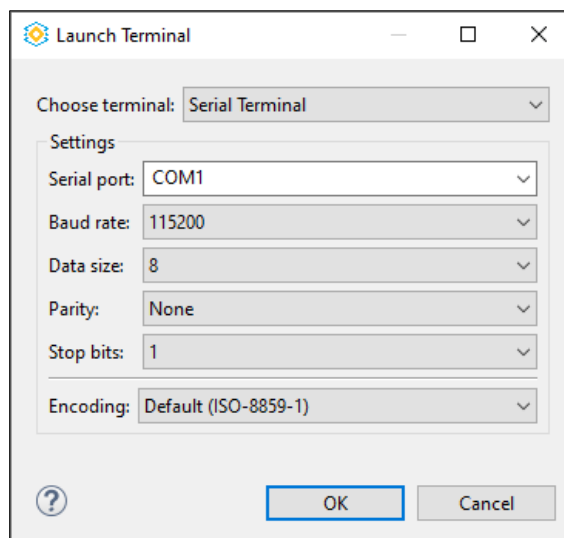

Figure 3.46. Launch Terminal Dialog 1
2. In the **Terminal** view, click the **Open a Terminal** icon . The **Launch Terminal** dialog opens (Figure 3.46).